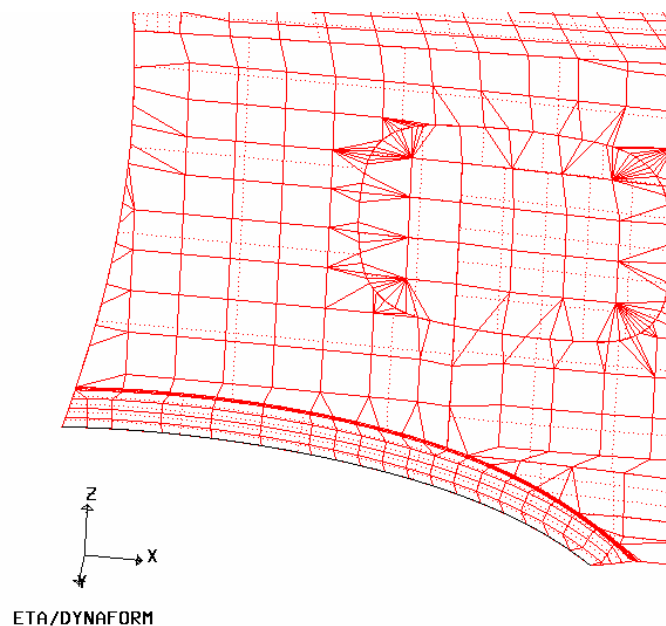

Figure 6.1.40 Select Morphing Boundary
1. Click the **MORPHING BOUNDARY** button, and the boundary of the Die will be highlighted. The program will prompt the user to select two points on the part boundary to define the morphing region. Figure 6.1.40 shows the selected region on the part boundary.